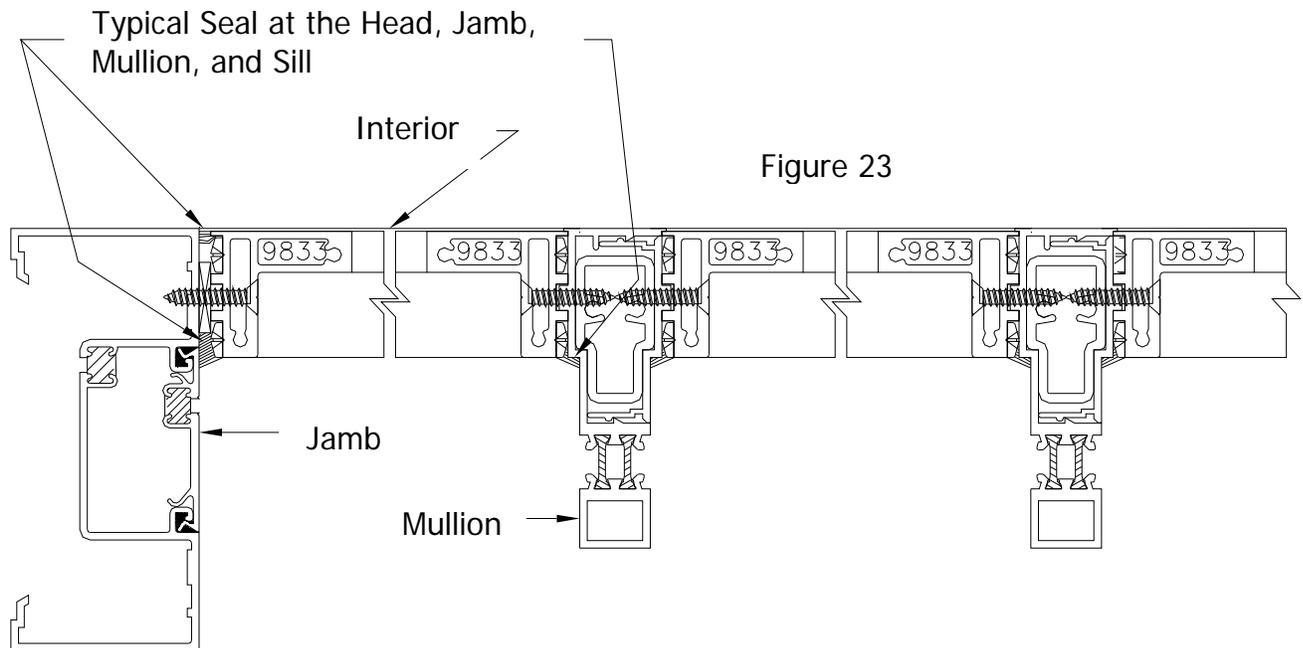

Figure 23
After the WV410 frames and intermediate mullions have been installed, the interior and exterior perimeter seals are to be applied. Seal the interior joint between the vertical frame and the storefront opening at the top, bottom, and end jambs of the ribbon run. The vertical mullion required no additional sealant at the interior surface. The exterior joint between the WV410 frame, storefront opening, and the intermediate vertical requires a continuous seal at all four (4) sides of the WV410 frames. See Figure 21 on Page 16 and Figure 23 below.